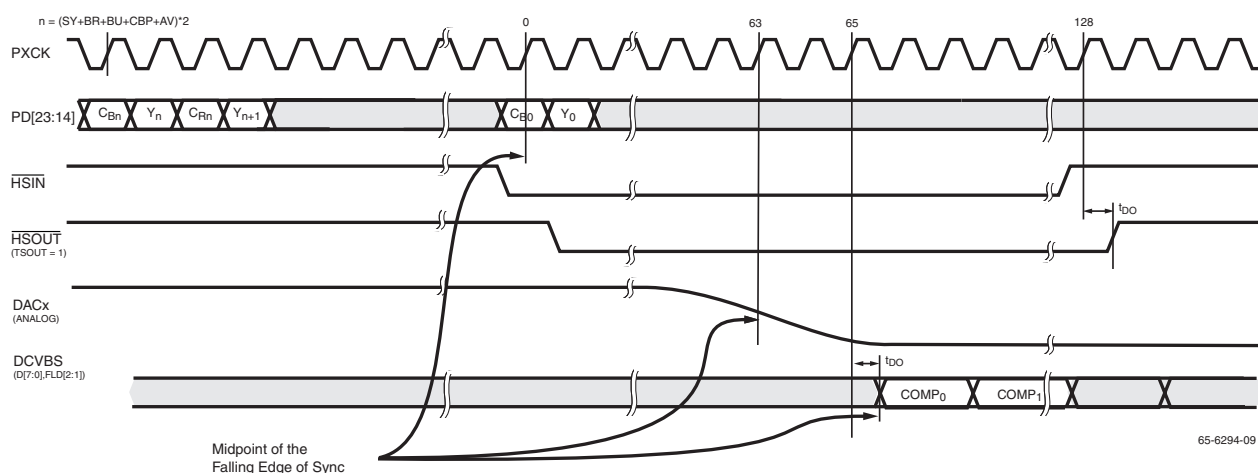

Figure 8. Propagation Delay through the Encoder
The propagation delay from the pixel data (PD) input to the D/A output is 64 PXCK 's. Figure 8 shows the propagation delay for both master and slave synchronization modes. For CCIR656 data streams, pixel 736 (pixel 0 in Figure 8) is the midpoint of sync and is 32 PXCK 's (24 PXCK 's in PAL) after the EAV TRS.